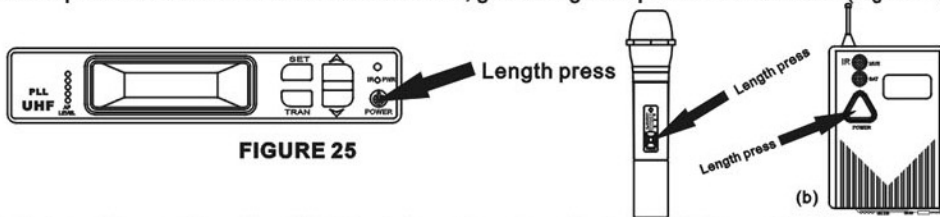

FIGURE 25
1. First, length press(2-3 second) the POWER button of receiver, get through the power of receiver; and then press the POWER button of transmitter, get through the power of transmitter (Figure 25).